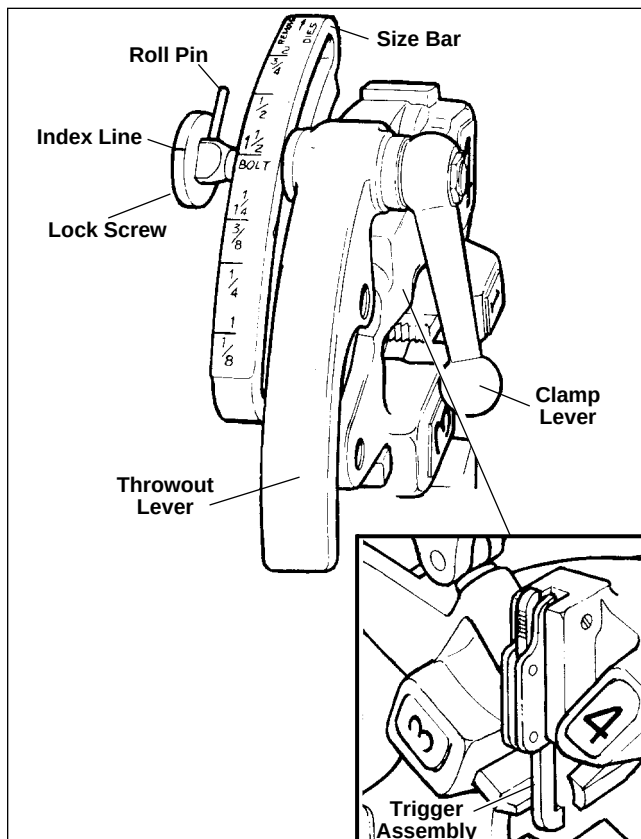

Figure 9 – Nos. 711 and 911 Self-Opening Die Head
7. b. Self-Opening Die Head (*Figure 9*) – When die head end of pipe contacts trigger, throwout lever is automatically opened on tapered threads.
The Nos. 711 and 911 Die Heads (*Figure 9*) for right-hand threads requires three sets of dies to thread pipe ranging from $\frac{1}{4}$ " through 2". One set of dies is required for each of the following pipe size ranges: ($\frac{1}{4}$ " - $\frac{3}{8}$ "), ($\frac{1}{2}$ " - $\frac{3}{4}$ "), and (1" - 2"). Bolt threading requires a separate set of dies for each bolt size.